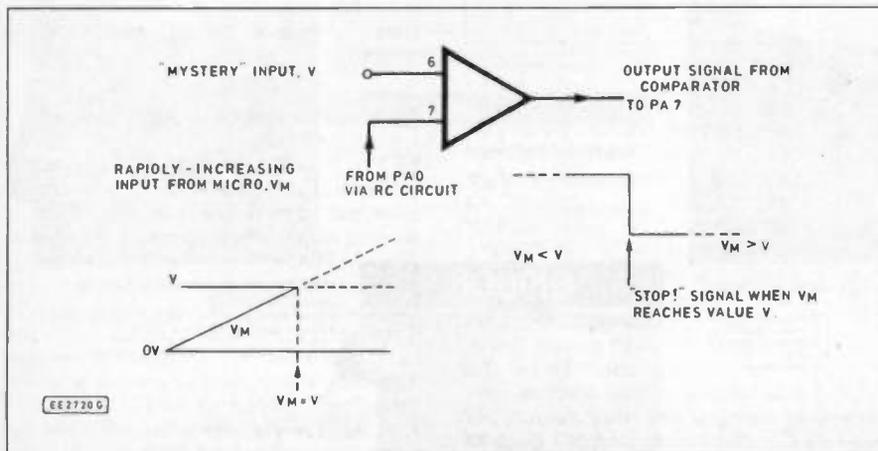

Fig. 11.7. How comparator output switches when both inputs become equal.
**T** Yes. Now for the main A/D conversion program (List 11.1). Most A to D conversions (including this one) are carried out by starting with a D/A conversion. The system generates an analogue signal from a digital value which is changed until it is equal to the input signal to be measured (Fig.11.7). Then the program says "That's it!" and the digital value tells us what the input is. The comparator chip, of course, gives the "stop" signal; in our case into PA7 (bit 7 of Port A). The digitally generated value for comparison is sent out from PA0 to pin 7 of the comparator.